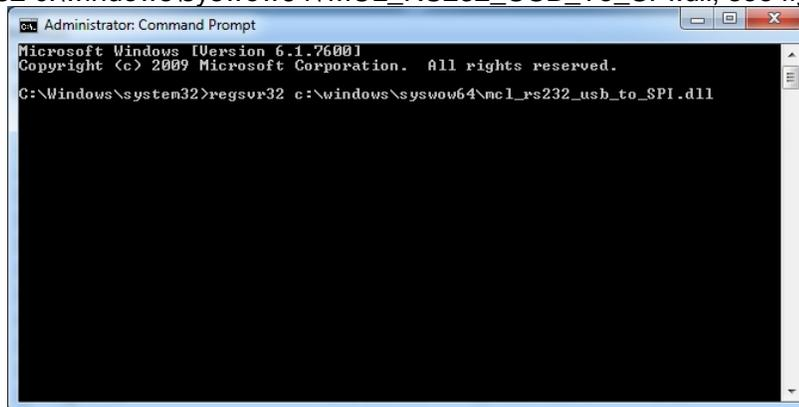

Figure 5 – Type command
- Type `regsvr32 c:\windows\syswow64\MCL_RS232_USB_To_SPI.dll`, see figure 5